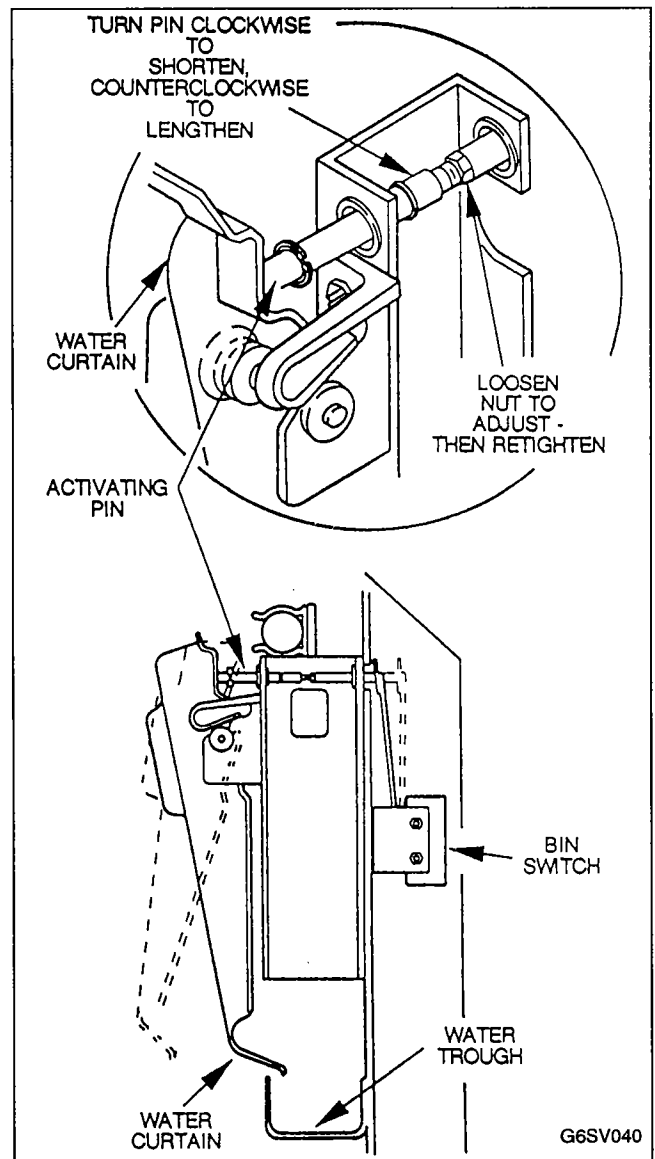

FIGURE 42. BIN SWITCH ACTIVATING PIN ADJUSTMENT
1. Pull water curtain away from evaporator until ice machine shuts off, Figure 42. (Remote machines, wait for ice machine to pump down.)
4. Bin switch pin adjustment (see Figure 42):